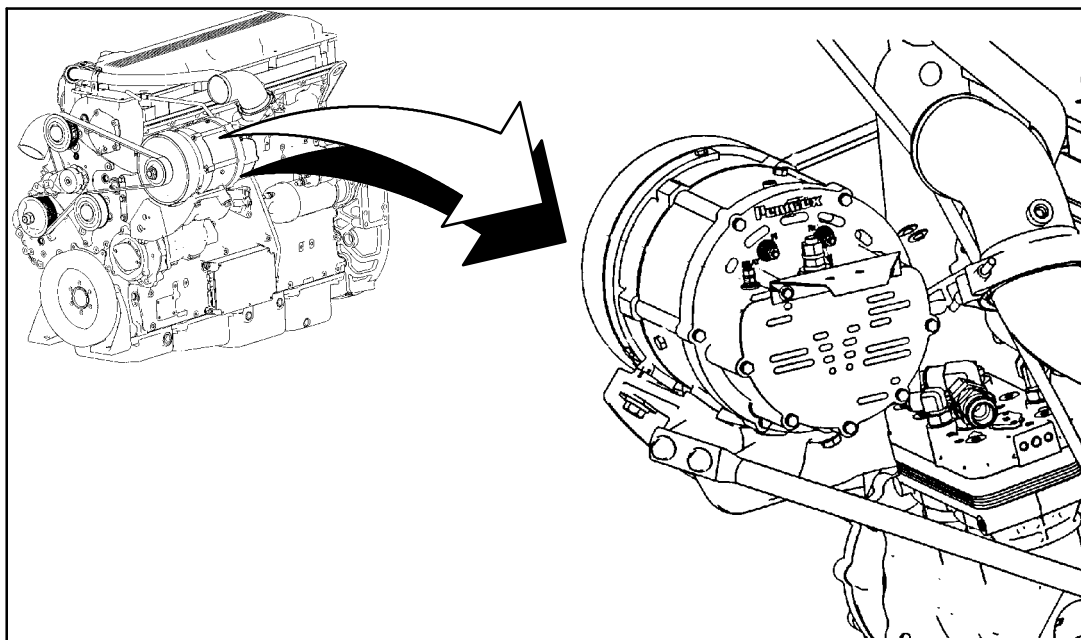

Figure 1.
4. Locate the alternator, mounted on the upper section of the engine (refer to Figure 1).